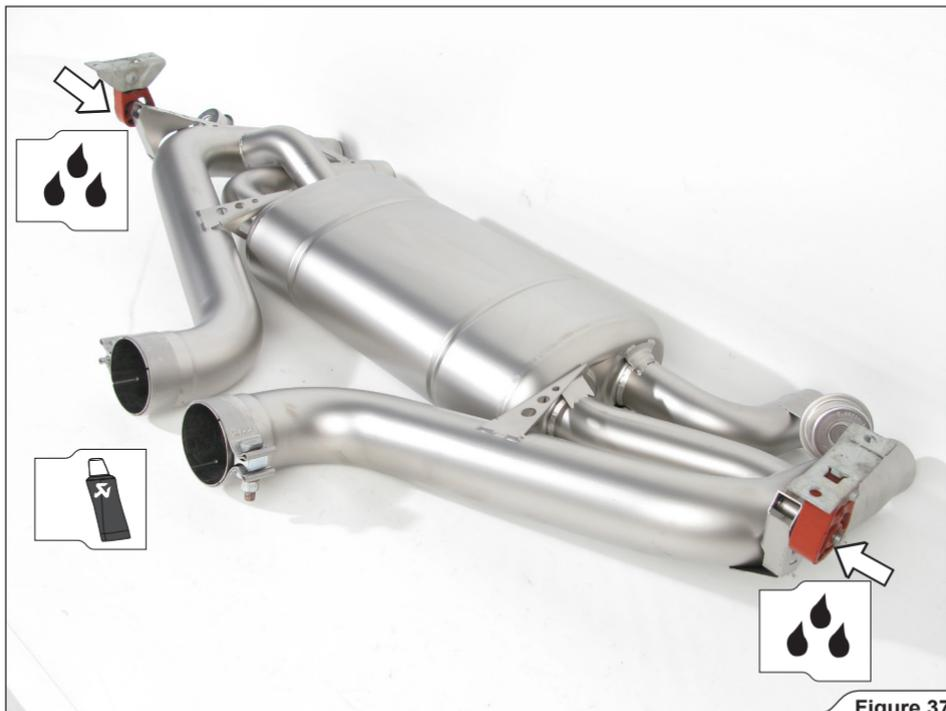

Figure 37
15. Reposition the original muffler rubber brackets onto the Akrapovič muffler and assemble the clamps onto the muffler inlet pipes, as shown (Figure 37).